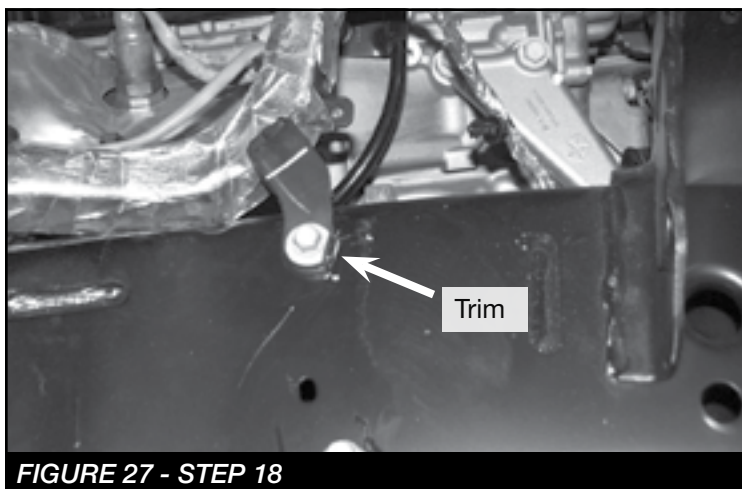

FIGURE 27 - STEP 18
18. Repeat Steps 6-17 on the passenger side. **NOTE: The wire harness plastic bracket mounted to the frame will need to be trimmed to allow the fitment of the passenger coilover tower. SEE FIGURE 27**